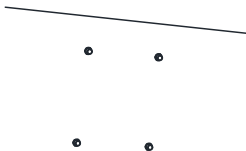

Figure 2-56 Drill Screw Holes
After DE4AxxxI series (IR) PTZ camera is installed, tighten the fixing screw with a screwdriver as shown in Figure 2-56.